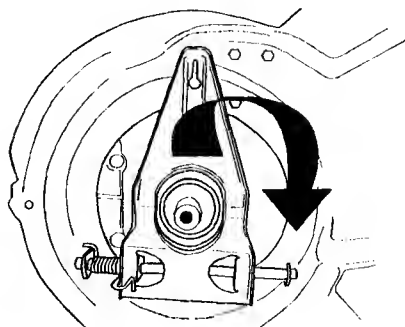

Figure 27
22. Check and make sure the belt is routed inside the pulley halves and the belt guard pin. See figure 27.